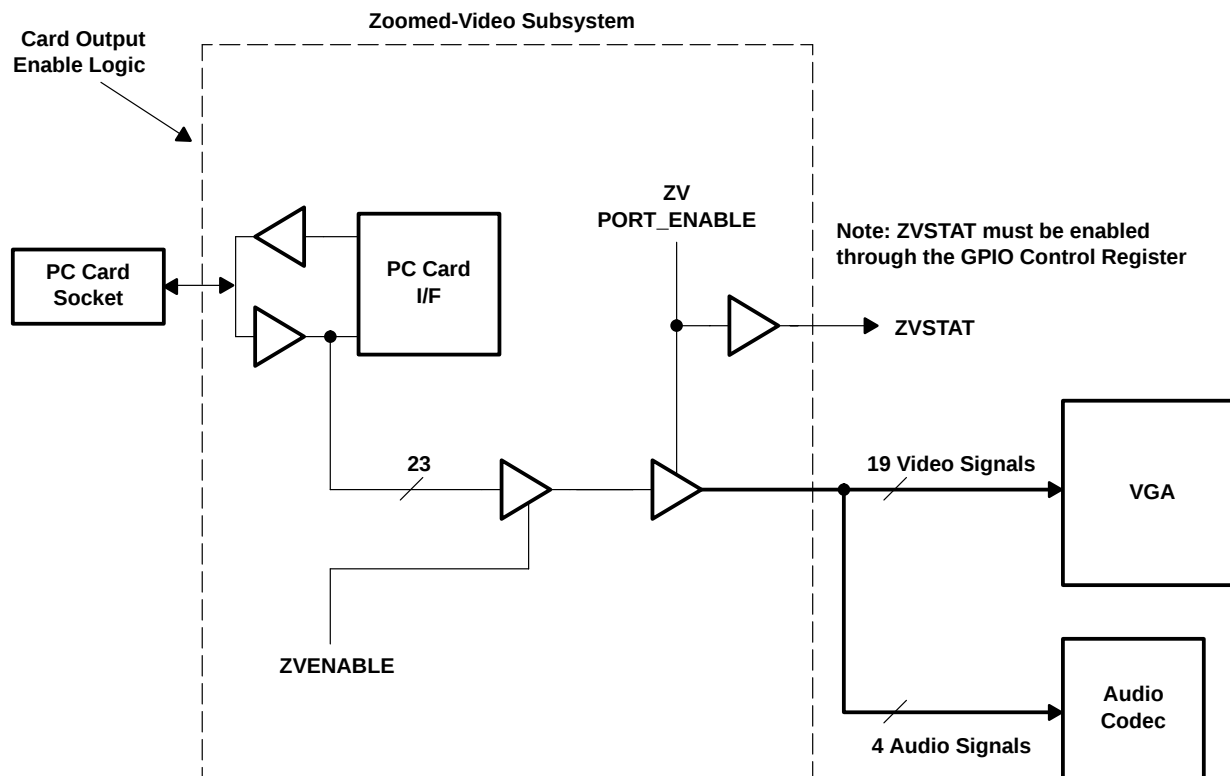

Figure 3-5. Zoomed-Video Subsystem
The zoomed-video (ZV) port on the PCI4410A device provides an internally buffered 16-bit ZV PC Card data path. This internal routing is programmed through the card control register (PCI offset 91h, bits 5 and 6). Figure 3-5 summarizes the ZV subsystem implemented in the PCI4410A device, and details the bit functions found in the card control register.